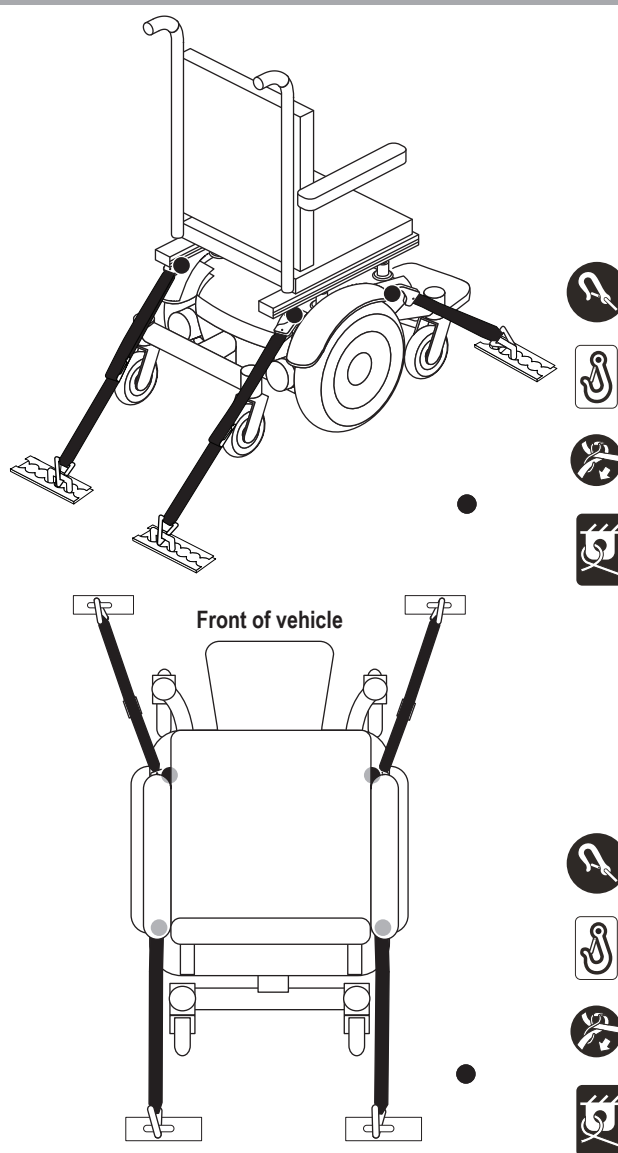

Figure 6. Unoccupied Transit System Securement Points
- Position the anchor point for the rear tie-down straps directly behind the rear securement points on the power chair. The front tie-down straps should be anchored to floor points that are spaced wider than the power chair to provide increased stability. **See figure 6.**